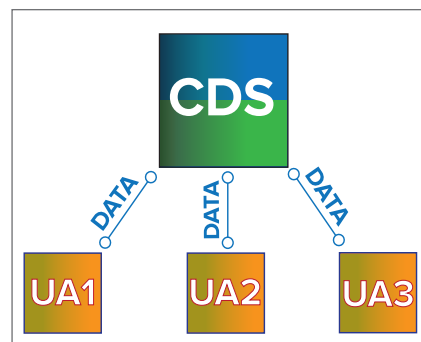

Figure 1 | Diagram of an ARINC 661 system, in which a single cockpit display system (CDS) is communicating with many user applications (UAs).
By using gaming technology "students are immersed in a high-fidelity 3-D replica of the actual ship within a virtual environment that contains all the spaces, compartments, systems, equipment, technical documents, instructions and tools necessary to qualify a student for their prospective watch station," Balta says. (See Figure 1 video/image).
Figure 1 | Cubic's Immersive Virtual Shipboard Environment (IVSE) developed for the U.S. Navy's Littoral Combat Ship. Video/image courtesy Cubic via Surface Warfare Officers School.
Figure 1 illustrates the CBM+ infrastructure areas. Compliant LRUs in this environment typically satisfy requirements in the areas of sensors, condition monitoring, health assessment, communications, and human interfaces. Design features that perform processing in these areas can be implemented with reasonably low recurring costs. Although the initial development cost is incrementally higher than most common go/no-go diagnostics, the high reuse, longer service life, and potentially lower average maintenance cost make a compelling business case.
› **Figure 1** | CBM+ infrastructure areas.
However, that is where the similarity ends. In the gaming world, the software game is defined once to the engine and then is spawned to many game consoles for execution. The opposite is true in an ARINC 661 system: A single CDS is communicating with many UAs in virtually all aircraft systems. (Figure 1.) Look at it this way: A single CDS can be used as the pilot-aircraft interface. Since a single CDS is controlled by many UAs, a clear definition of the communication constructs is an essential component of the ARINC 661 definition. In addition, a
Figure 1 | The XMReality Remote Guidance tool allows for knowledge sharing, including training. The solution uses augmented reality (AR) to project an overlay on mobile devices such as smartphones, tablets, or laptops. Smart glasses can be used if both hands are needed to perform the task. Image courtesy XMReality.
guide the engineer through every step of the repair with augmented hands and tools – all without having to leave base. Using smartglasses, mobile devices, or tablets, engineers can see a real-time, interactive demonstration of the repair job right in front of their eyes. (Figure 1.) These skills can be leveraged anywhere at any time with the capability of modern mobile technology, helping improve first-time fix rates and decrease the chance of error.